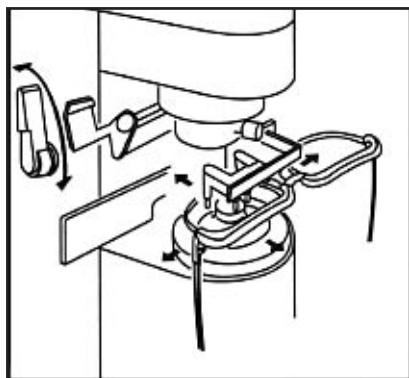

Fig. 9
3. When lens on the frame is measured, lower part of frame (i.e. two lens rings) should contact lens pushing board: turn lens pushing hand lever to push out the lens pushing board (Fig.9).